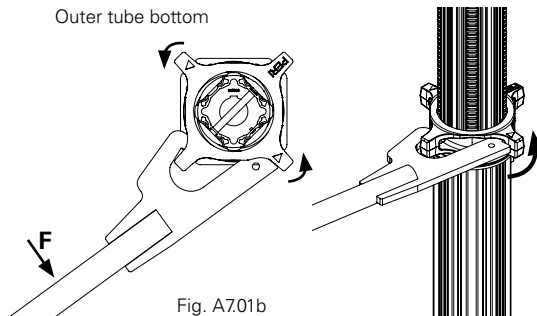

Fig. A7.01b
- using Wing Nut Spanner HD Item no. 022027 (Fig. A7.01b)